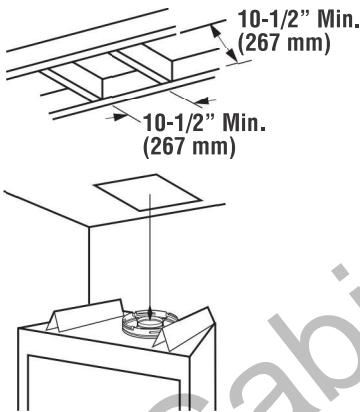

Figure 19
A. Frame ceiling opening - Use a plumb line from the ceiling above the appliance to locate center of the vertical run. Cut and/or frame an opening, 10-1/2" x 10-1/2" (267mm x 267mm) inside dimensions, about this center mark (*Figure 19*).
C. Frame ceiling opening - If the vertical route is to penetrate a ceiling, use plumb line to locate the center above the appliance. Cut and/or frame an opening, 10-1/2" x 10-1/2" (267 mm x 267 mm) inside dimensions, about this center (refer to **Figure 19 on page 15**).